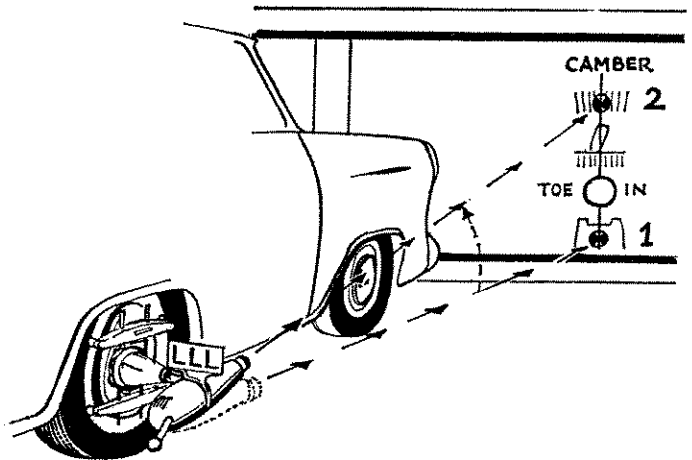

Fig. 38. Checking rear wheel camber
**Rear Wheel Camber (Fig. 38)**